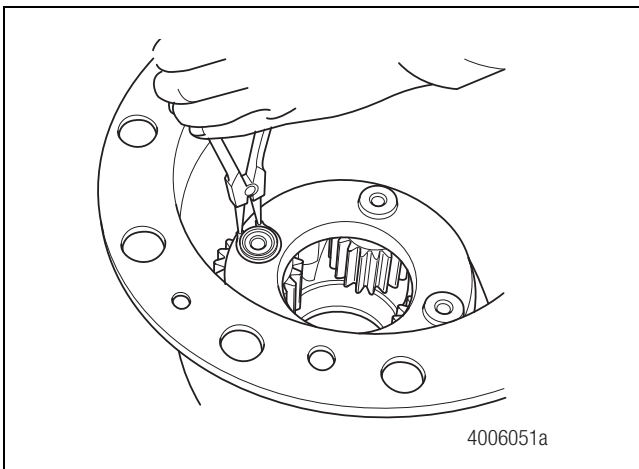

Figure 5.4
1. Remove the snap rings from the end of the planetary pinion shaft. Figure 5.4.